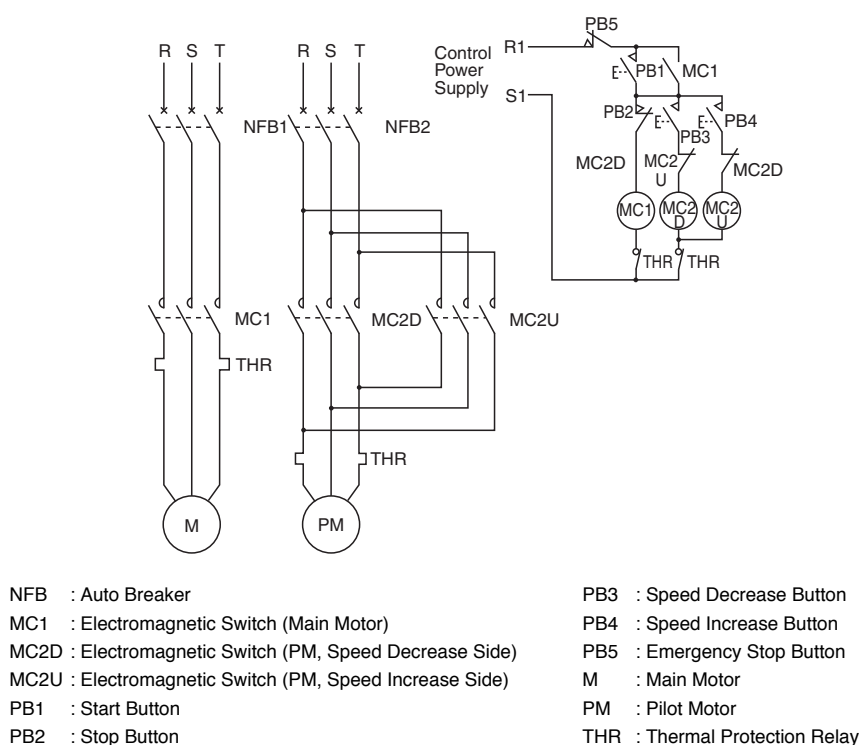

Fig. 23 Connection Diagram
- An example of control circuit for pilot motor and push button is shown in Fig. 23 . To check the connection, start the main motor first. Then, confirm that the revolution speed of output shaft increases while depressing the speed increase button (PB4). Also confirm that the revolution speed of output shaft decreases while depressing the speed decrease button (PB3). If the operation is reversed, interchange two phases of power supply to the pilot motor (PM).
To prevent such erroneous operation, it is recommended that power to pilot motor (PM) be obtained from secondary side of main motor power supply. (Refer to Fig. 23 on page 31)
In this case, erroneous operation can be prevented by making connection as shown in Fig.23 on Page 31.